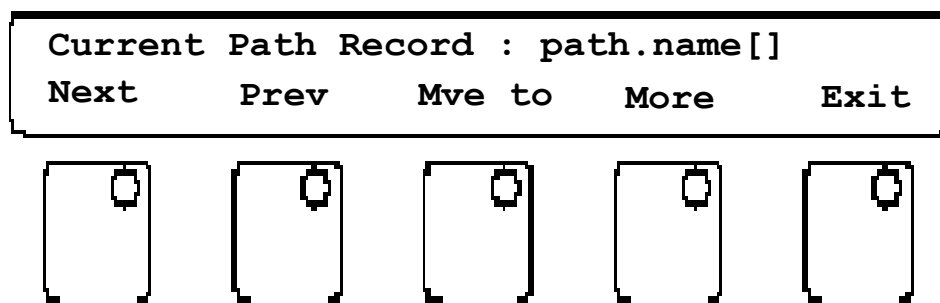

Figure 4-21. PathWare Teaching Utility Menu
3. If a path segment record exists, the pendant will display the menu options shown in Figure 4-21. If no records exist, an error will be displayed in the monitor window. To clear an error, press and proceed with the next step.